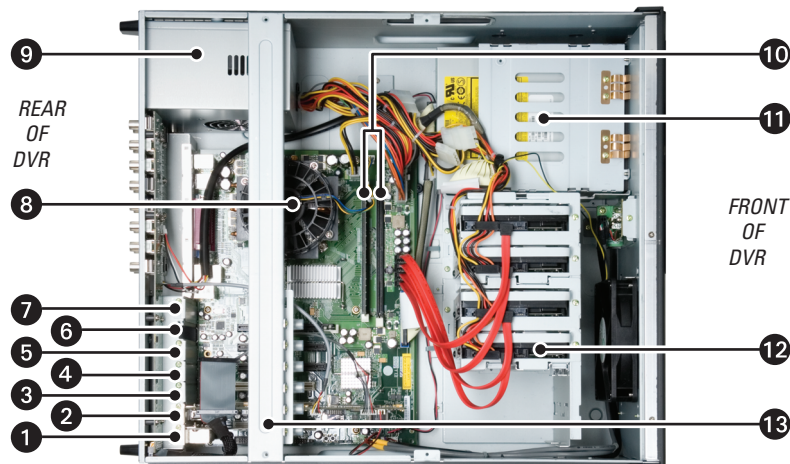

Figure 3. Interior Layout
2. Use a Phillips screwdriver to remove the chassis cover (refer to Figure 3):
Figure 3 and Table B provide information about the DX8100's slot assignments and major components. (Slots on the motherboard are labeled differently.)